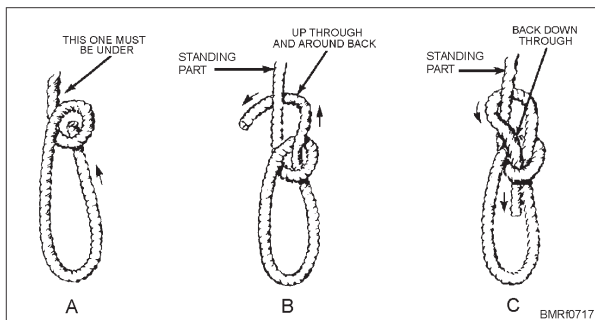

Figure 7-17.—Tying a bowline.
3. Grasp the loop formed and hold it. Pass the bitter end up through the bottom of the loop, as shown in figure 7-17, view A.
4. Pull the bitter end up through the loop, and pass it around behind the standing part of the line (fig. 7-17, view B).
5. Pass the bitter end down through the loop beside the line that was pulled up through the loop (fig. 7-17, view C).